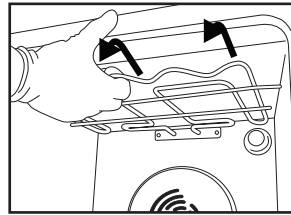
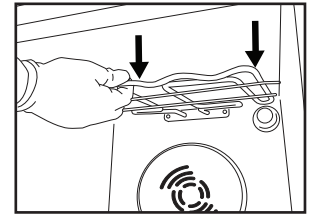

Fig. 1
Fig. 2
2. Pull the heating element out a little (Fig. 1) and lower it (Fig. 2).